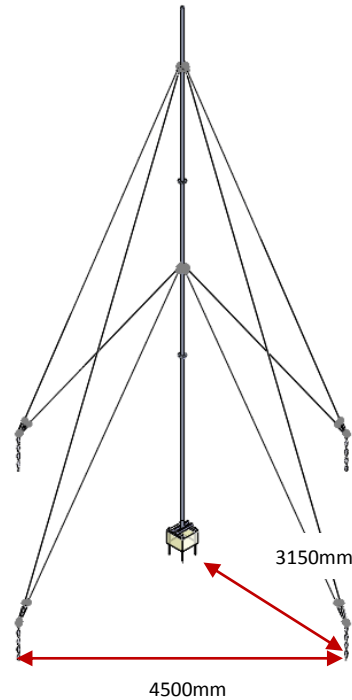

Fig 2: Anchor positions
4. **Mark out the tower anchor positions** - Begin by selecting an appropriate position for the tower base. Remember that the guy wires will radiate out from the centre of the tower, so you will need to ensure that enough room is available. A footprint of 4.5 meters square is required for the tower guy wires. See fig 2 for the positions of the anchors. Measure and mark these positions starting from the position of the tower base. One of the guy anchors must be in-line with the tilting action of the tower to allow easy final erection.